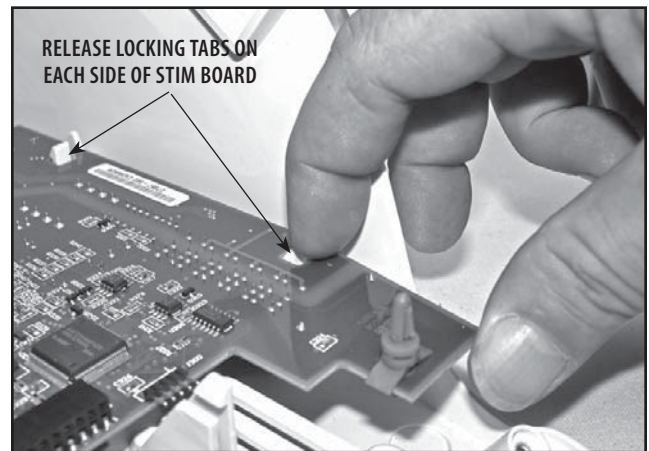

FIGURE 6.38
8. Gently pull up on each corner and release the plastic retaining tabs holding the Stim Board in position. See Figure 6.38.